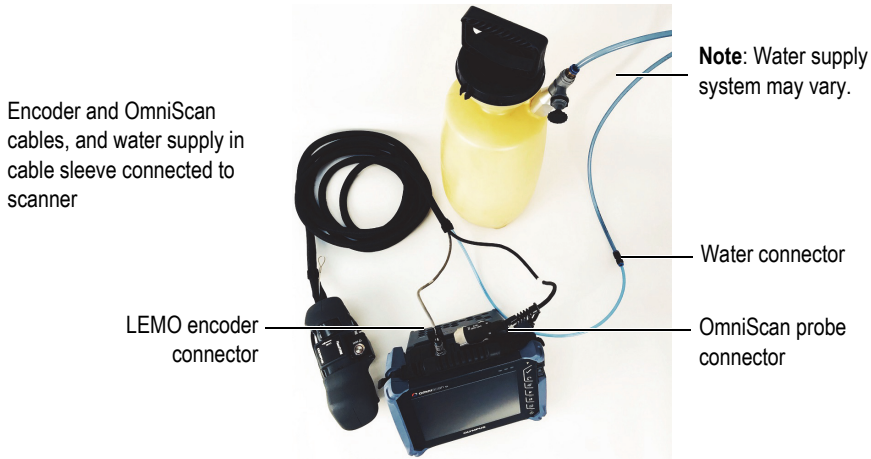

Figure 2-4 Scanner connections example
1. Connect the LEMO encoder cable to the OmniScan instrument (see Figure 2-4 on page 28).